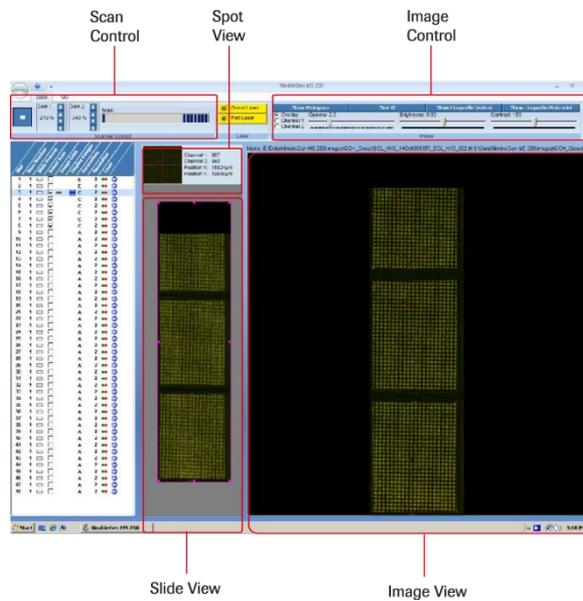

Figure 13: Example of a Run Time Window
1. Click the **Start/Stop Scan** button (▶) in the Scan Control (Figure 13).
3. Once scanning begins, the Parameter Control and Area Definition Control close. The Image View, Slide View, and Spot View open (Figure 13). The current task is identified in the progress bar.